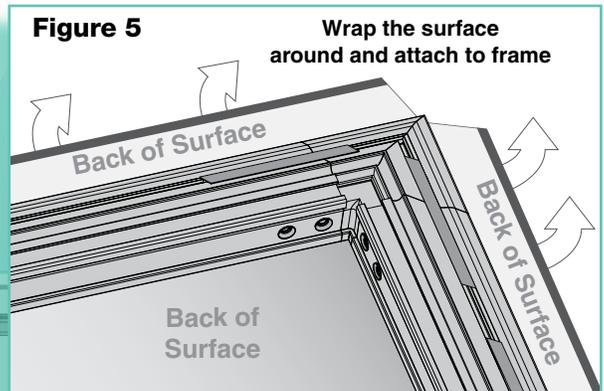

Figure 5
6. Pull the edge of the screen surface and wrap it around the frame (see Fig 5). Attach the screen surface on all four (4) sides.